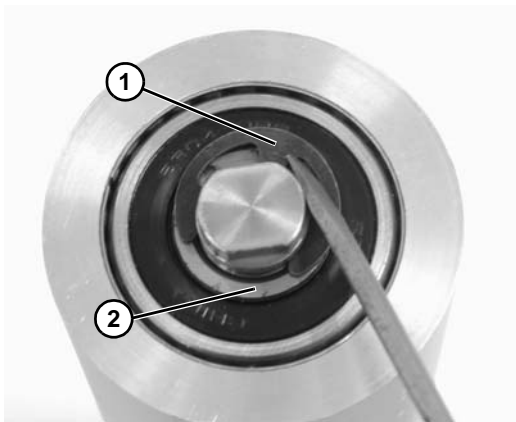

Figure 98
7. Remove the pulley shaft assembly: remove the clip ring (Figure 98, item 1) and washer (Figure 98, item 2) from one side of the pulley assembly.